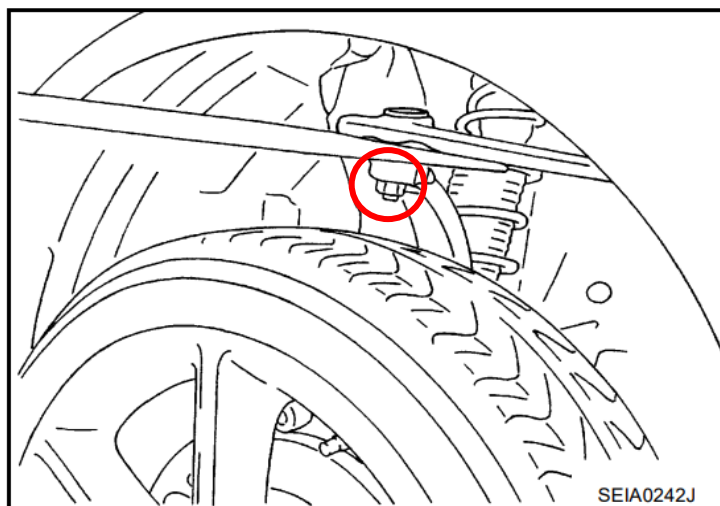

Figure 2
8. Remove the nut securing the OEM FUCA Ball Joint to the steering knuckle. *Figure 2*.